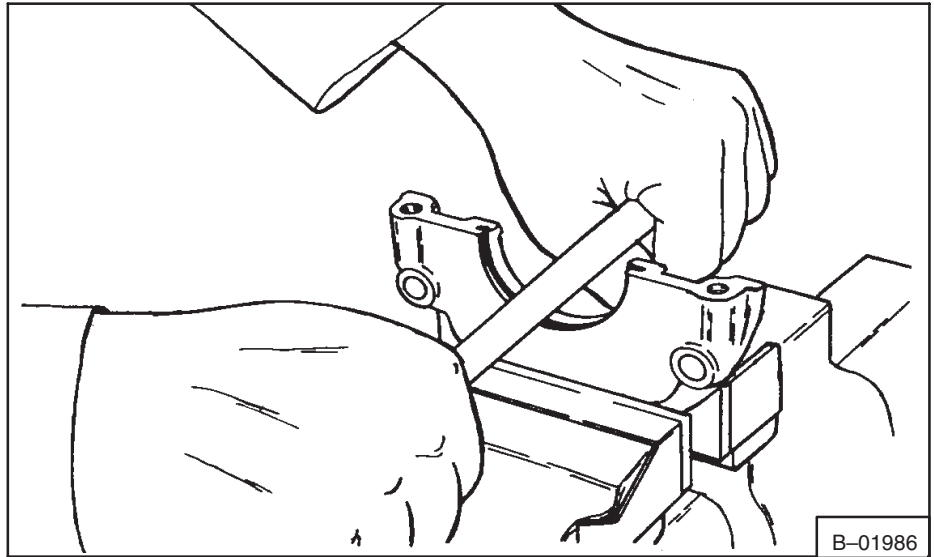

Fig. 7-39 Seating New Seal
3. With the thumb or finger press the remainder of the strip into the groove, working from the center, then use a round bar to force the strip into position by rolling and pressing its inner diameter as shown in Figure 7-39.